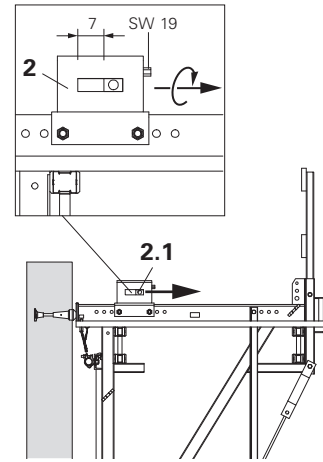

Fig. B2.05a
1. Completely move back the sliding block (2.1) of the Adjusting Unit CB 160 (2), SW 19, see B3. (Fig. B2.05a)